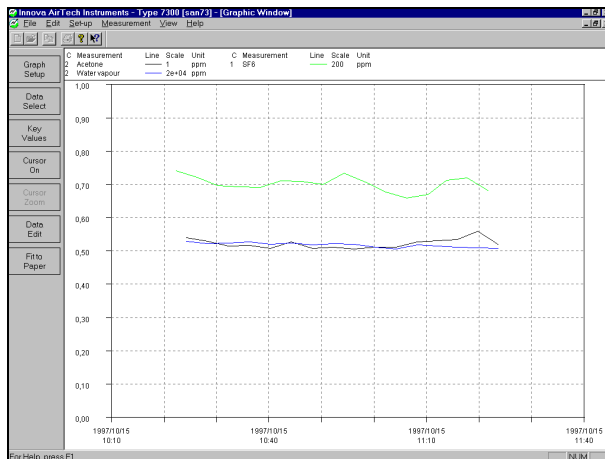

Fig 5.1 The graphic window
1. Pull down the **View** menu and click on **Graphic window**. The Graphic window will be displayed in Fit to Window mode, Fig. 5.1.